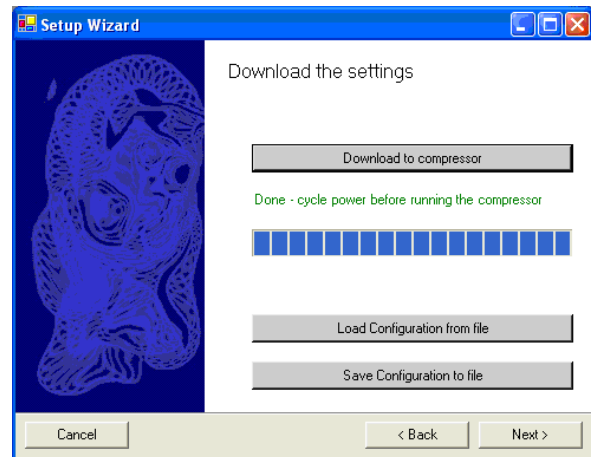

Figure 34 Download Settings Screen (After Download)
5. When the message “ Done. Cycle power before running the compressor” appears, turn OFF power to the compressor; refer to Figure 34. Wait at least 5 minutes, then check that the LEDs on the Backplane are OFF.